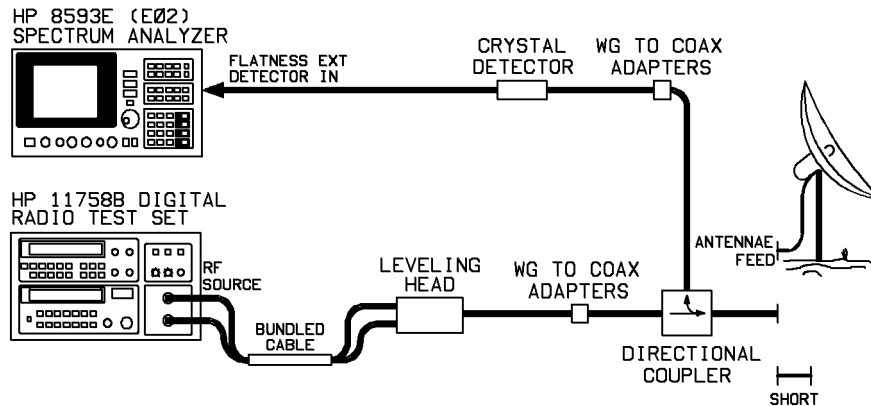

Figure 3-23. Return Loss Setup
1. Configure equipment as shown in Figure 3-23.